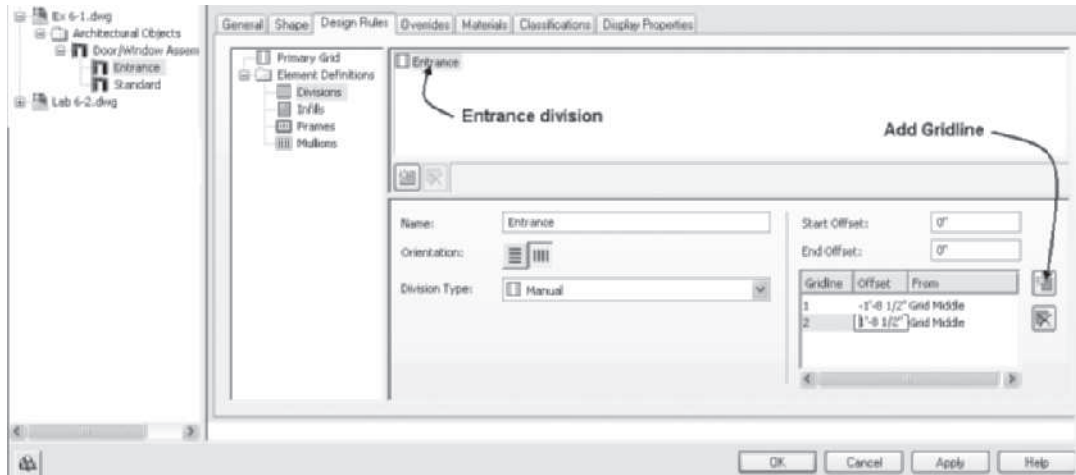

FIGURE 6.26 Specifying the Divisions in the Design Rules
9. Select the **Select Keynote** button, and verify that the keynote database is {Vista: C:\ProgramData\Autodesk\ACA 2011\enu\Details\Details (US)\AecKeynotes (US).mdb [C:\ProgramData\Autodesk\ACA 2011\enu\Details\Details (UK)\AecKeynotes (UK NBS).mdb]}.
11. Select the **Design Rules** tab, select **Divisions** in the left pane, and edit the lower-right pane as follows: Name = **Entrance**, Orientation = **Vertical**, Division Type = **Manual**, Start Offset = **0**, End Offset = **0**. Select **Add Gridline**, and create the following grid lines, as shown in Table 6.13 and in Figure 6.26.